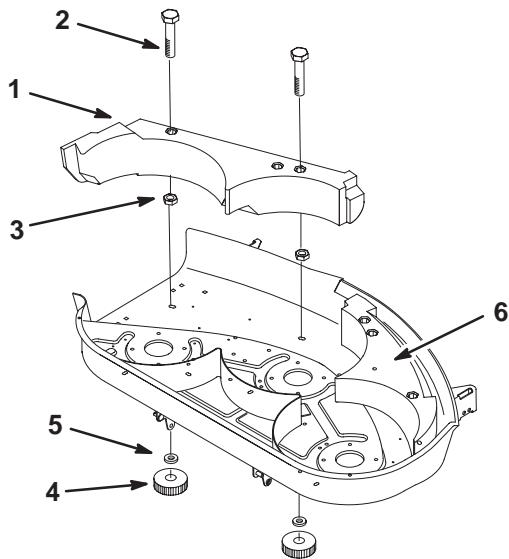

Figure 16
2. Remove the knobs and Bellville washers from the right side baffle (Fig. 16).
4. Install the right side baffle to the mower with knobs and Bellville washers (Fig. 16).